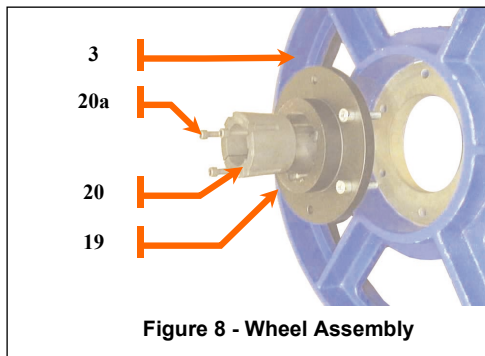

Figure 8 - Wheel Assembly
1. Remove the bolts (20A) from the wheel hub (20) (Figure 8).
2. To aid in wheel disassembly, screw bolts (20A) into the tapped holes of the hub (20).
3. Using a proper lifting device, remove the wheel (3) by sliding it off the shaft.